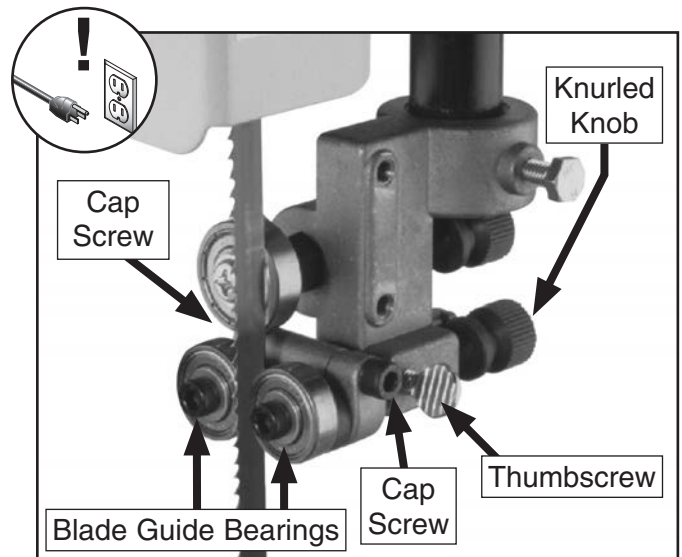

Figure 25. Blade guide controls.
2. Familiarize yourself with blade guide controls shown in **Figure 25**.